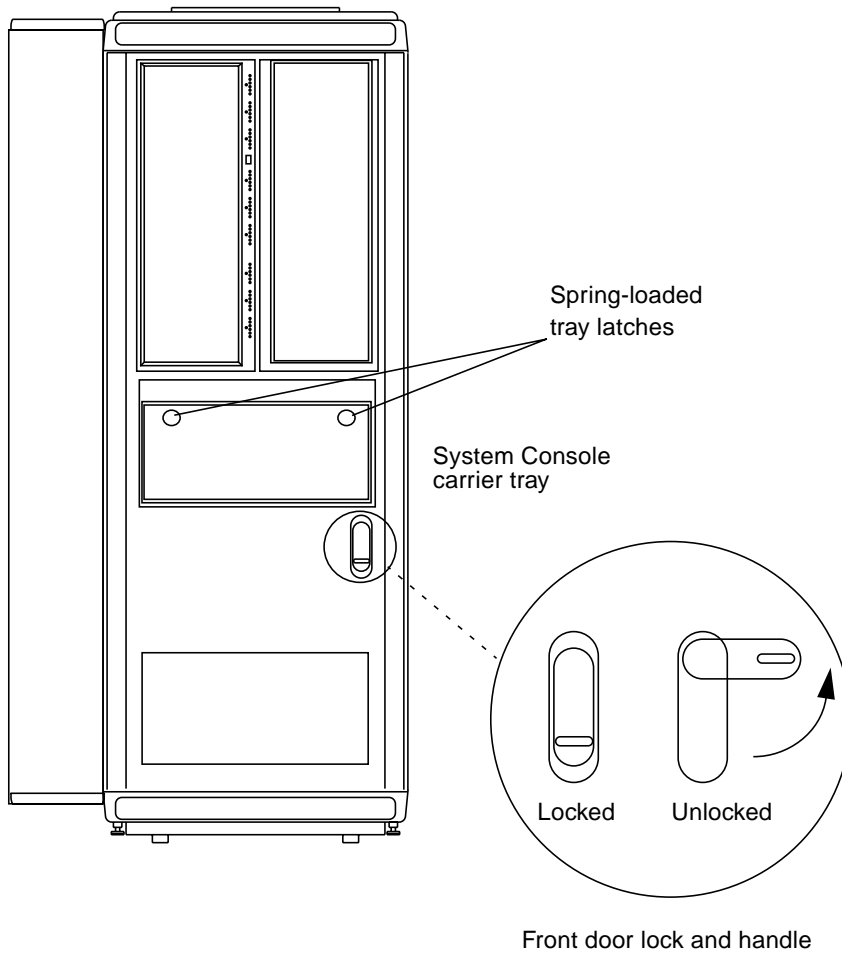

FIGURE 2-2 Cabinet Front Door Lock and Tray Latches
The front cabinet door is located at the lower half of the cabinet (the upper half holds the HDSA drawers). The front door also contains the System Console in its tray carrier. See FIGURE 2-2. To open the front cabinet door:
2. **Turn the spring-loaded knobs on the tray clockwise to release the tray.** See FIGURE 2-2.